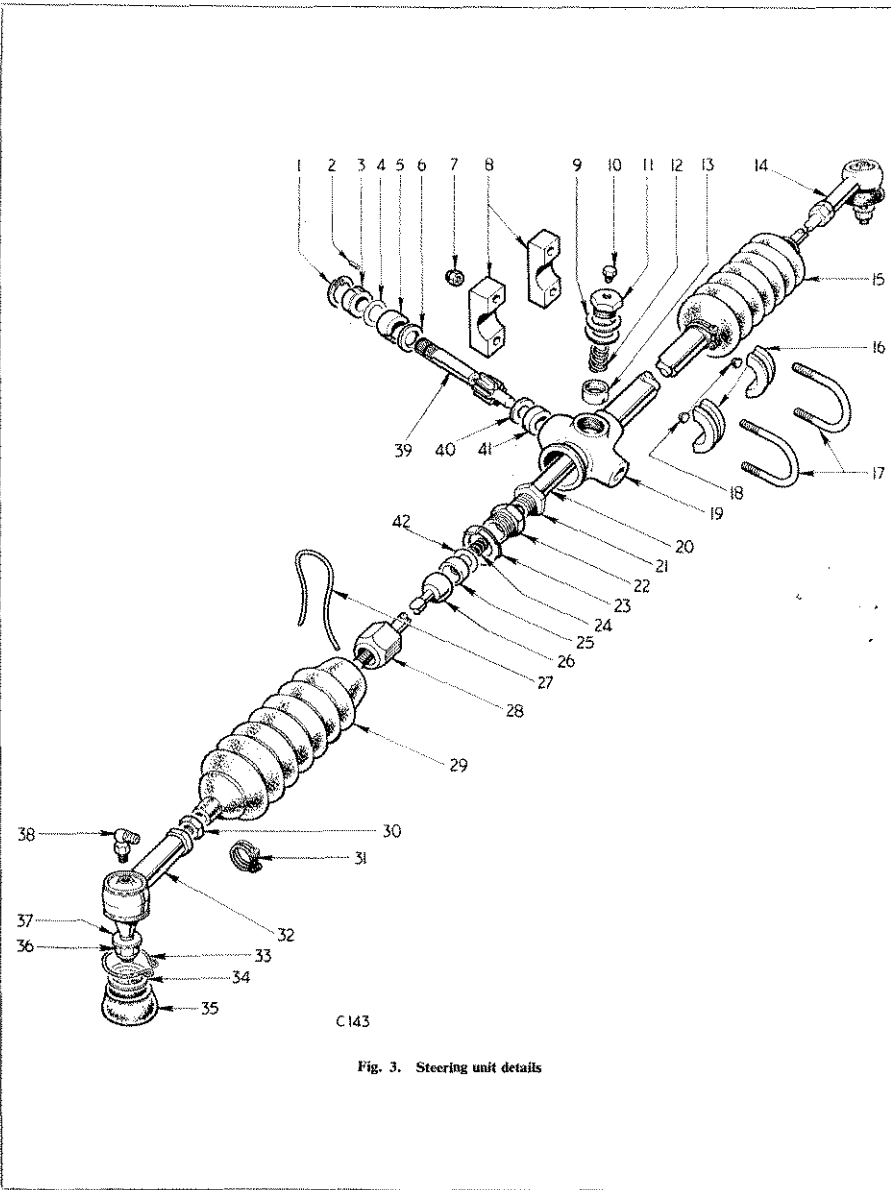
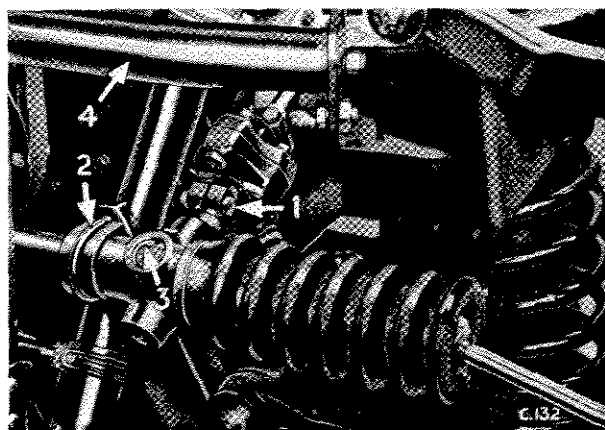

Fig. 3. Steering unit details
Fig. 6. Steering unit attachment
#### Removal (Fig. 3)
Remove the bolt (1) from the steering coupling Fig. 6. Remove the nyloc attachment nuts (36) and separate the outer tie rod ball joints from the tie rod levers, as shown on Fig. 3.
## Steering Unit (Fig. 3)
Enter the taper pins of the outer tie rod ball joints (32) into the steering levers and fit washers (37) and nyloc nuts (36). Refit the bolt (1) Fig. 6, and nyloc nut to the steering coupling.